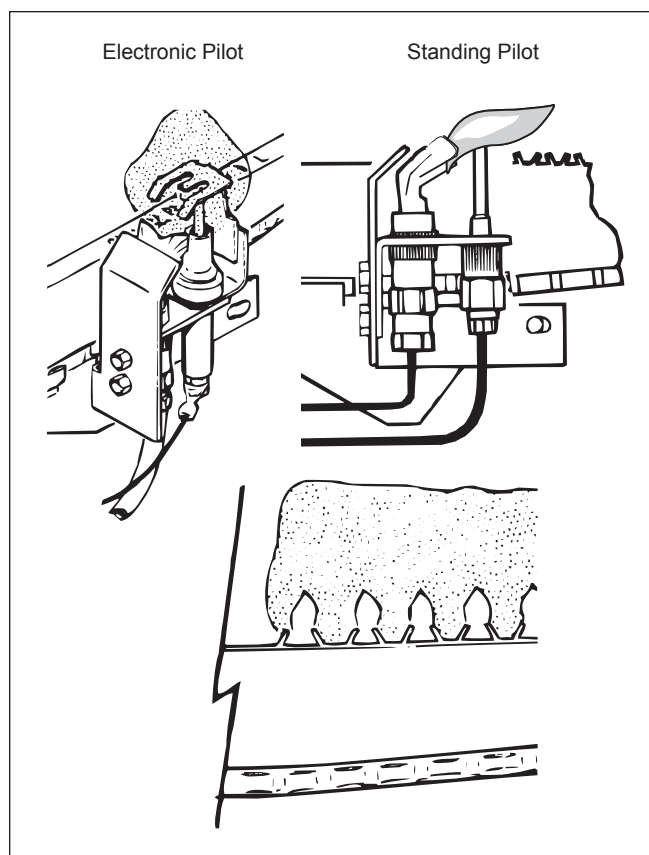

Figure 31. Flame patterns.
3. At startup and every 6 months after, look at the pilot and main burner flame (see Figure 31). If the flame has the appearance of sooting tips, check for debris near orifices. Call service technician.